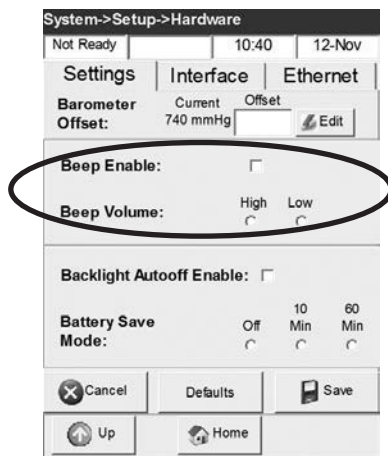

Fig. 3-37 Enable Beep
3. In the **<Settings>** screen, select **<Beep Enable>** (Fig. 3-37).